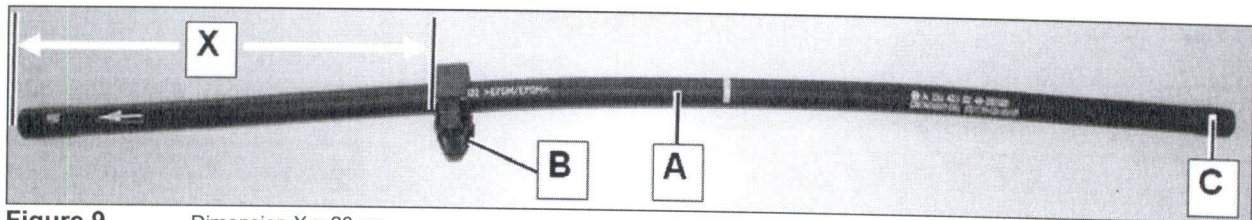
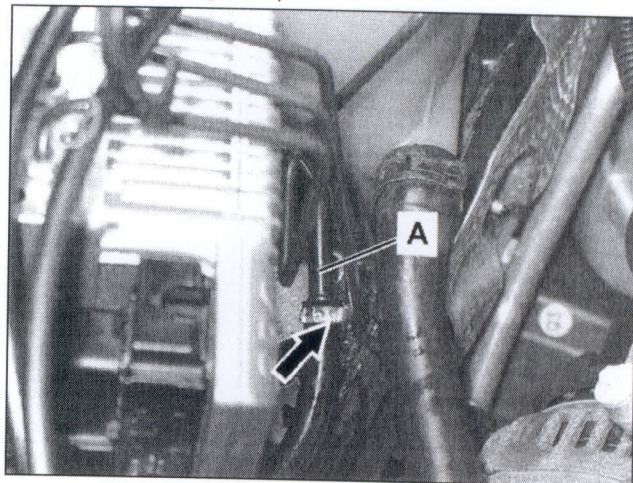

Figure 9
Figure 10
- Verify that the dimension X (Figure 9) on the **new** SBC suction hose (A) equals 20 cm. Adjust (if necessary) by repositioning the mounting clip (B) on the SBC suction hose (A).
- Place new hose clamp onto unmarked side of suction hose (C, Figure 9).
- Connect the unmarked end of the suction hose (C, Figure 9) onto the suction line (A, Figure 10) and secure hose with a **new** hose clamp (arrow, Figure 10).